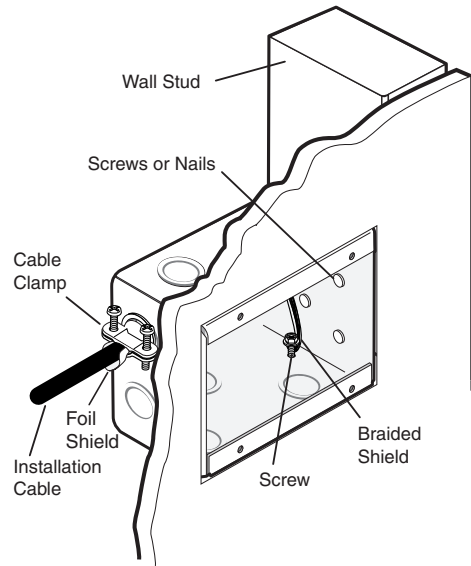

Figure 2-7 — Grounding outer braided and foil shields
6. Exposed cable shields (braids or foil) are potential sources of short circuits. Trim back and/or insulate shields with heat shrink (figure 2-7).